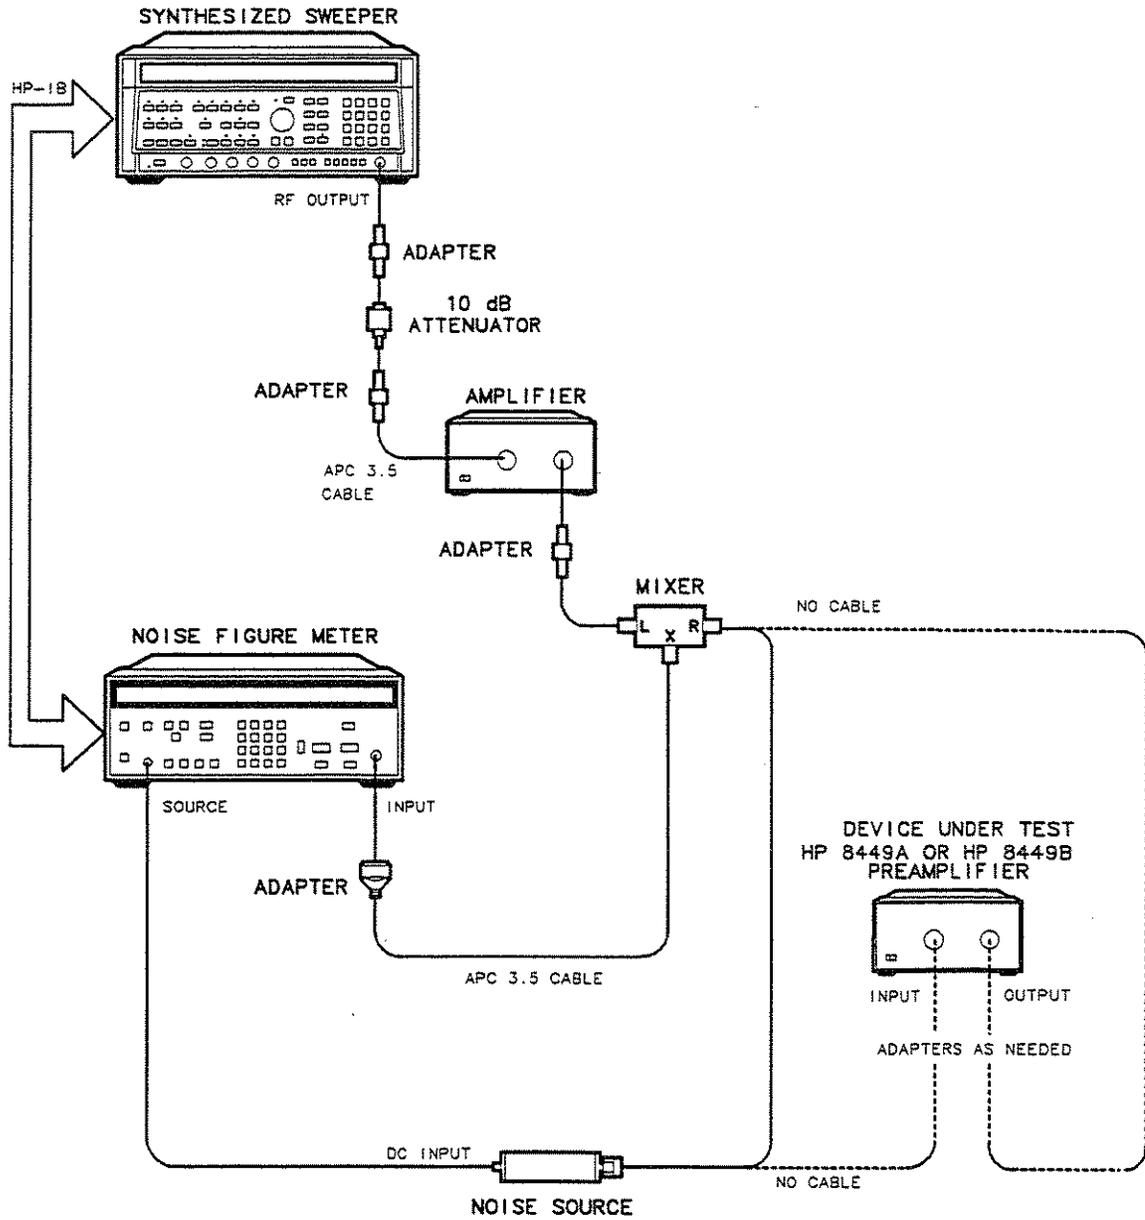

Figure 4-2. Noise Figure Test Setup Using an HP 8340A/B
This test measures the noise figure of the preamplifier over its frequency range. First, the source and noise figure meter are connected to calibrate the test setup without the preamplifier in the circuit. The preamplifier is then added to the circuit and the noise figure is measured. The test setup is illustrated in Figure 4-2.
1. Connect the test equipment as shown by the solid lines in Figure 4-2. Do not connect the HP 8449A or HP 8449B at this time.
- 10. When calibration is finished, make the following connections as illustrated with dashed lines in Figure 4-2.